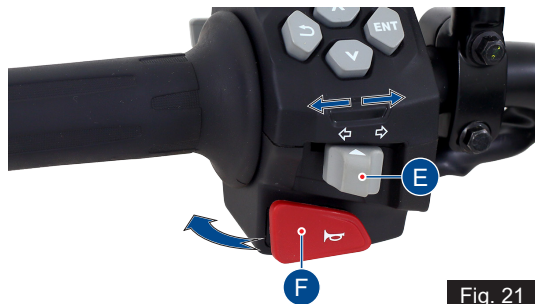

Fig. 21
E) Switch turn signal (ref. Fig. 21)
F) Horn switch (ref. Fig. 21)